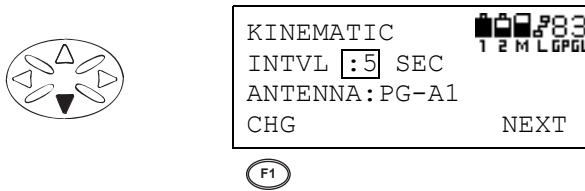

Figure 3-48. Select Interval
5. Press the **down cursor key** to move to the INTVL parameter. Press **F1 (CHG)** and change the interval (Figure 3-48). For the interval, select either 1, 5, 10, 15, 30 or 60 seconds.